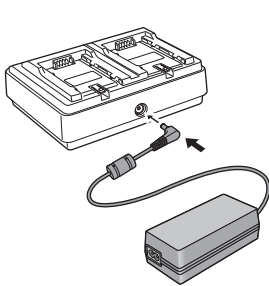

Fig. 1
**1** Connect the DC plug of the AC adaptor to the <DC IN 12V> terminal of the battery charger. (Fig. 1)